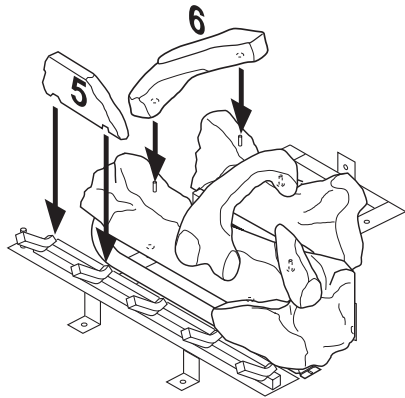

Figure 48 - Installing Logs No. 5 and No. 6
5. Place log #5 (base log) onto the front left part of the grate making sure the notches fit over the prongs of the grate). See Figure 48.
6. Place log #6 (left log) onto two pins on the left side of back and front log. See Figure 48.